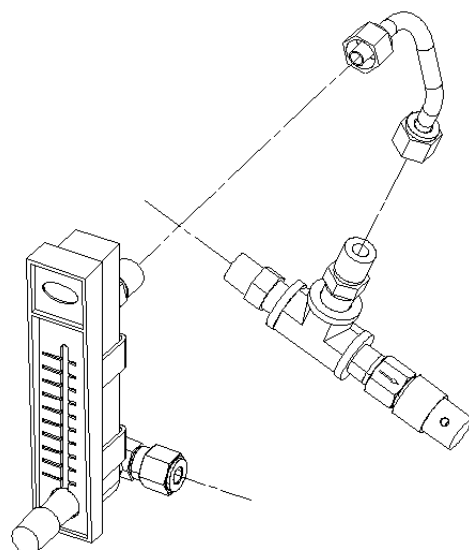

Figure 1: Flowmeter, Tube and Tee Subassemblies
2. Loosen the 2 Swagelok nuts to separate the Purge Assembly into 3 subassemblies as shown in Figure 1: Flowmeter, Tube and Tee Subassemblies.